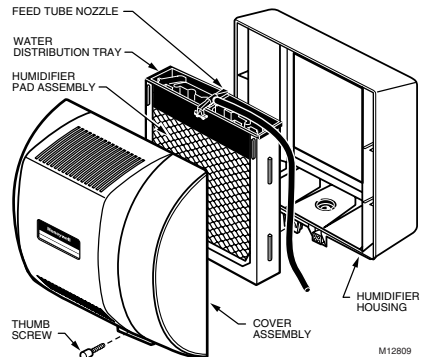

Fig. 14. Cleaning your humidifier.
2. Remove the humidifier cover by unplugging the connector and loosening the thumb screw. Grasp the cover near the bottom and pull toward you. See Fig. 14.